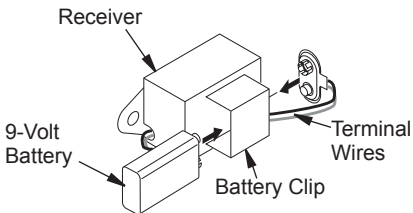

Figure 30 - Attaching Battery to Receiver
2. Locate the battery clip mounted on the back of the receiver (see Figure 30).
4. Attach the terminal wires to the battery (see Figure 30).